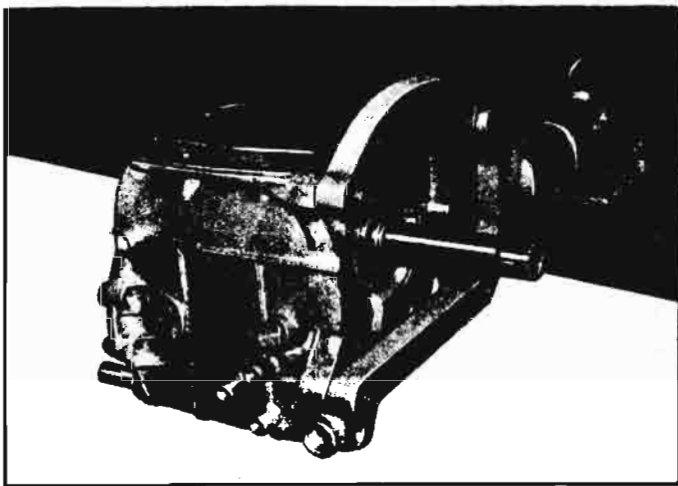

Fig. 6D-4—Transmission in Fixture J-7896
1. Mount transmission in holding fixture J-7896 (fig. 6D-4).